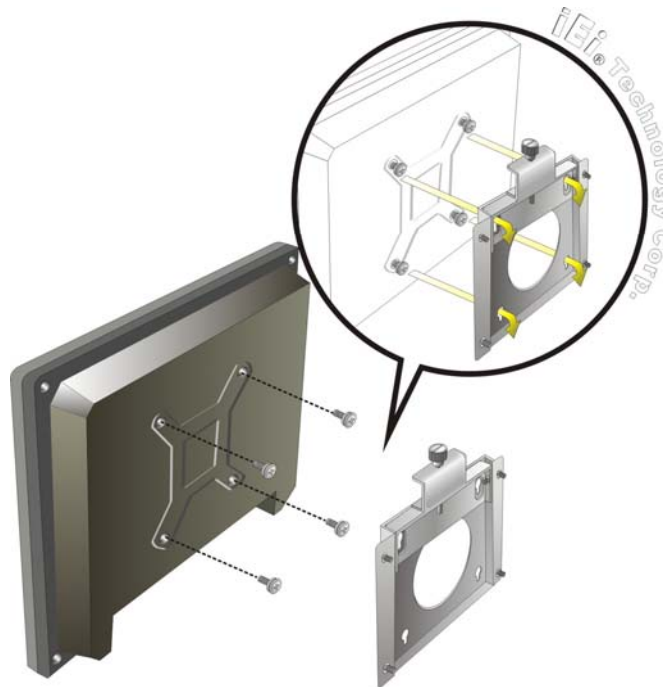

Figure 4-13: Chassis Support Screws
- Step 6:** Insert the four monitor mounting screws provided in the wall mounting kit into the four screw holes on the rear panel of the flat panel PC and tighten until the screw shank is secured against the rear panel (**Figure 4-13**).
Step 8: Carefully insert the screws through the holes and gently pull the monitor downwards until the monitor rests securely in the slotted holes (**Figure 4-13**). Ensure that all four of the mounting screws fit snugly into their respective slotted holes.